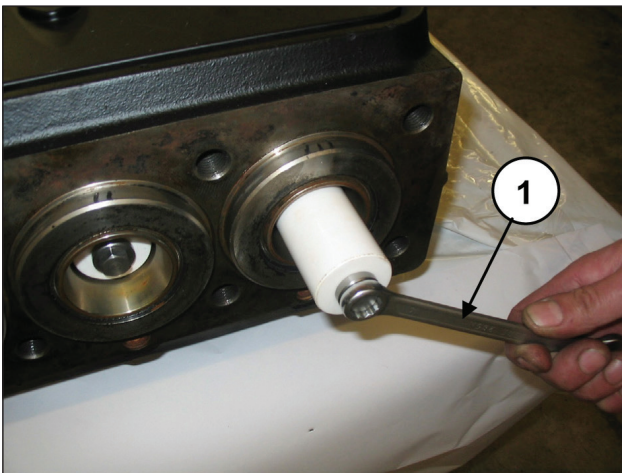

Fig. 156
Disassemble the pistons by unscrewing the fixing screws (pos. ①, Fig. 156).